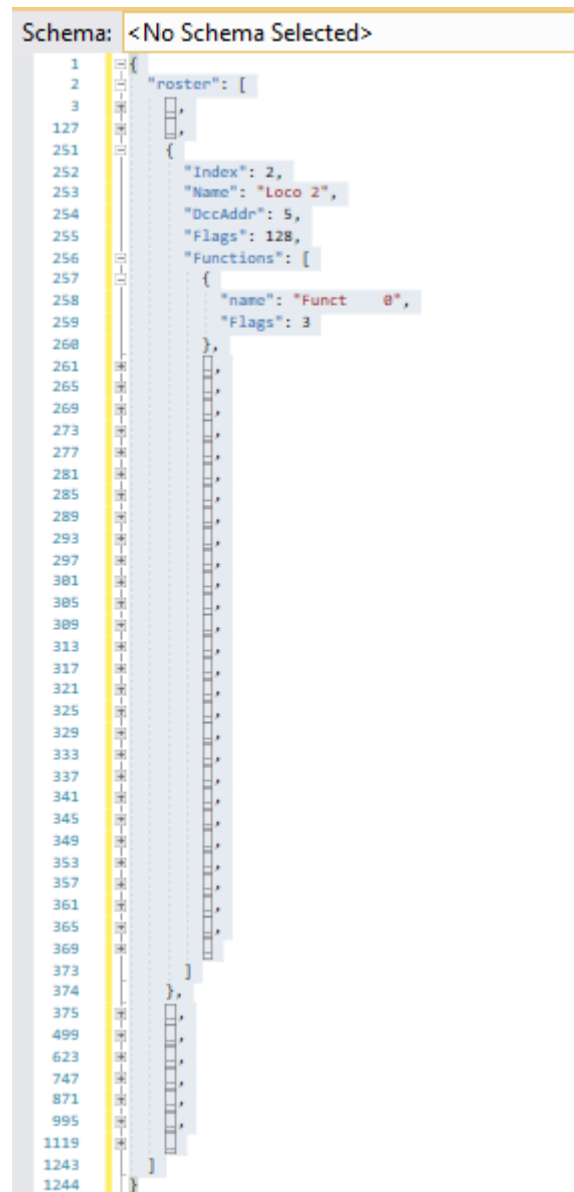

Figure 54 A loco entry in a JSON Roster File
**For the technically inclined,** the file is in JSON format and contains locos as JSON objects with 29 function definitions as an array of sub-objects. A section of the file is shown in Figure 54. It is possible to carefully modify this manually, for example, to change the index of one or more locos in the roster, but be careful, as uploading an invalid file may crash the firmware in the WFD-30/31 and require a factory reset.